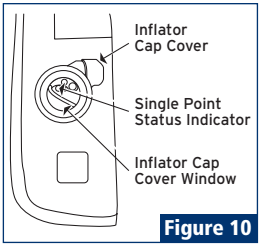

Figure 10
- 11 Turn cell and cover right-side out, returning to normal state. If your PFD has the black molded inflator cap cover (see Fig. 10), position the protective inflator cap cover over the inflator body so that the single point status indicator is visible through the inflator cap cover window.